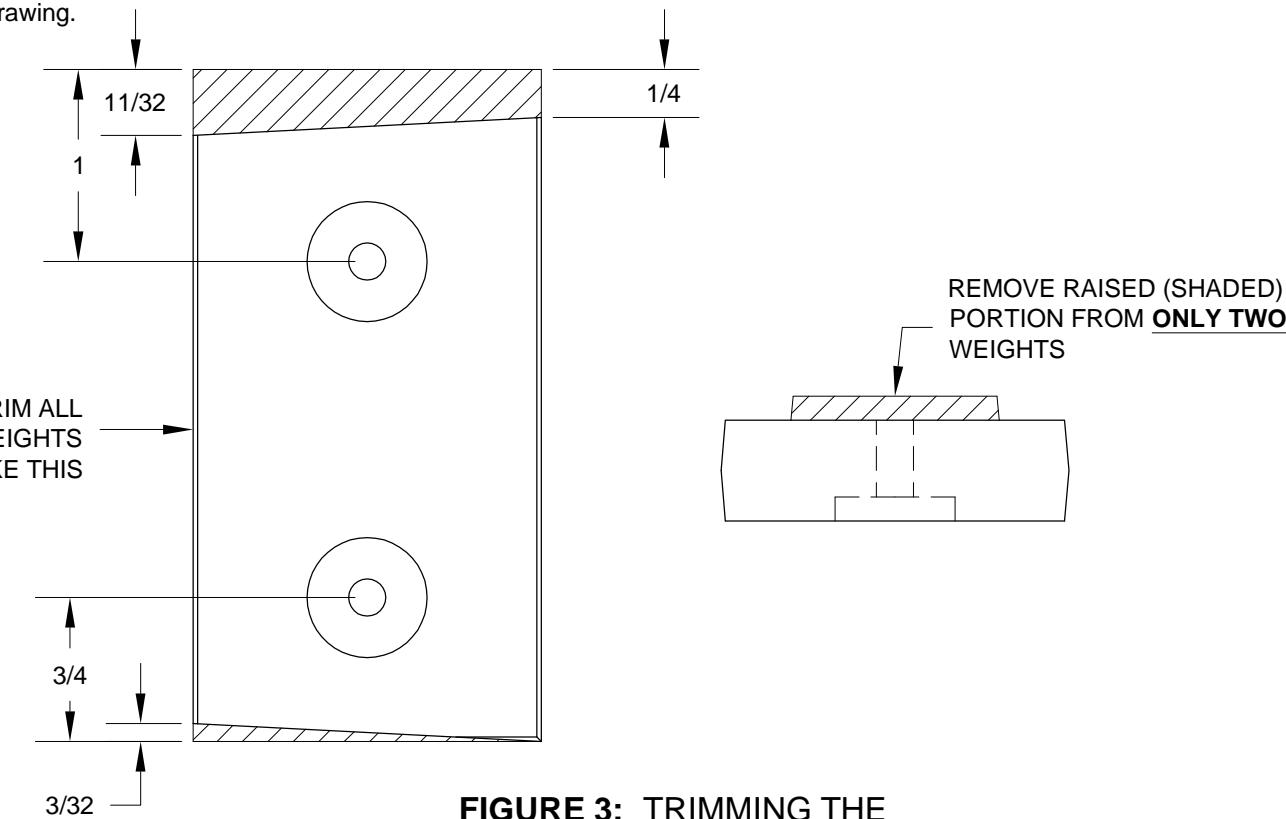

FIGURE 3: TRIMMING THE E-614 COUNTER WEIGHTS
Step 8: Remove the material indicated by the shaded areas in the left drawing of Figure 3 from all four E-614 Counterweights. Notice that the two holes are closer to the bottom edge in the drawing, so be sure to trim the weight accordingly.